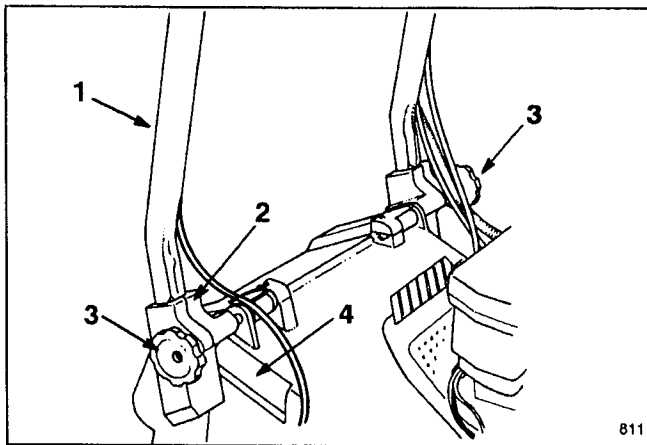
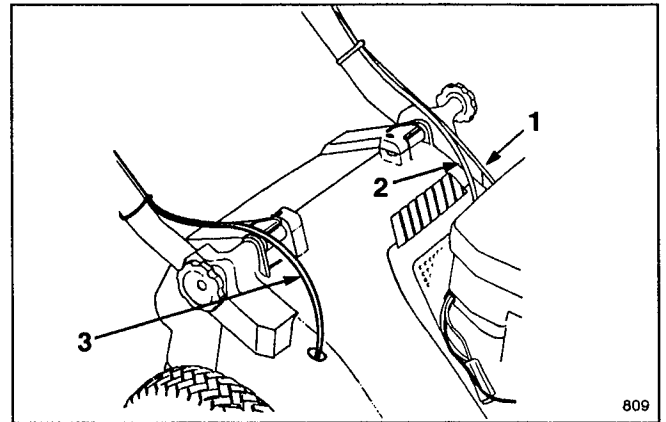

Figure 1
Figure 2
1. INSTALLING HANDLE—Loosen knobs on mounting brackets (Fig. 1).
3. Slide handle ends into holes in mounting brackets until handle ends are completely seated in brackets (Fig. 1). Make sure cables rest on top of mounting brackets (Fig. 2).
4. Rotate handle and brackets rearward until brackets fit securely into housing pockets (Fig. 2).